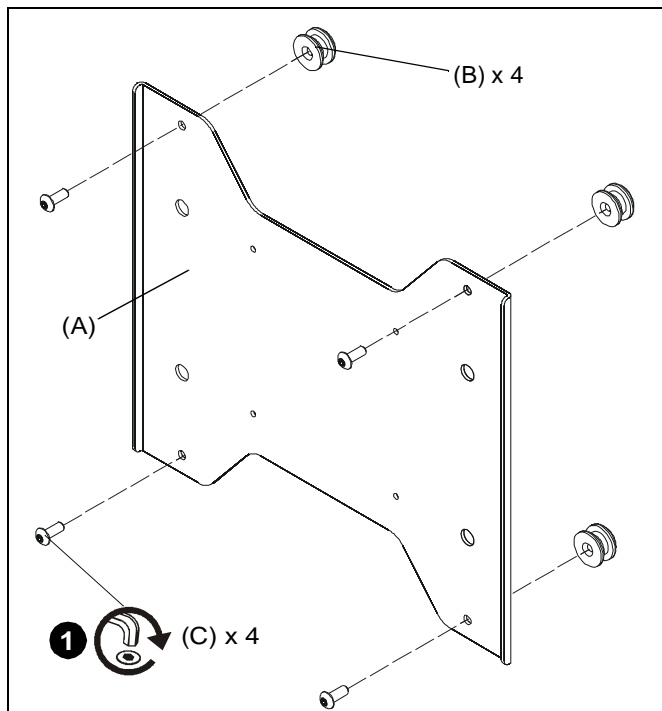

Figure 1
1. Insert four #10-24 x 1/2" button head cap screws (C) through holes on back side of bracket and into four mounting buttons (B) with chamfered hole of mounting button (larger surface) facing bracket. Tighten until buttons are fully secured to bracket. (See Figure 1)